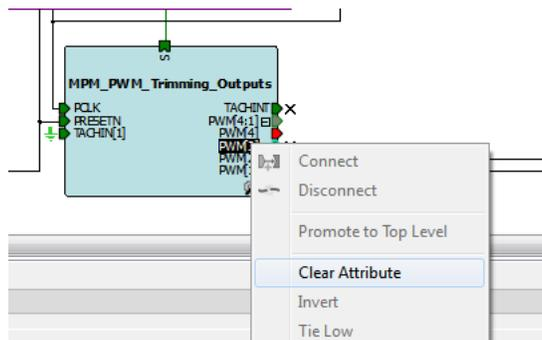

Figure 39 • PWM[3] Clear Attribute
- Right-click PWM[3] to clear the attribute as shown in Figure 39 and right click PWM[3] again to Promote to Top Level as shown in Figure 40 on page 27.